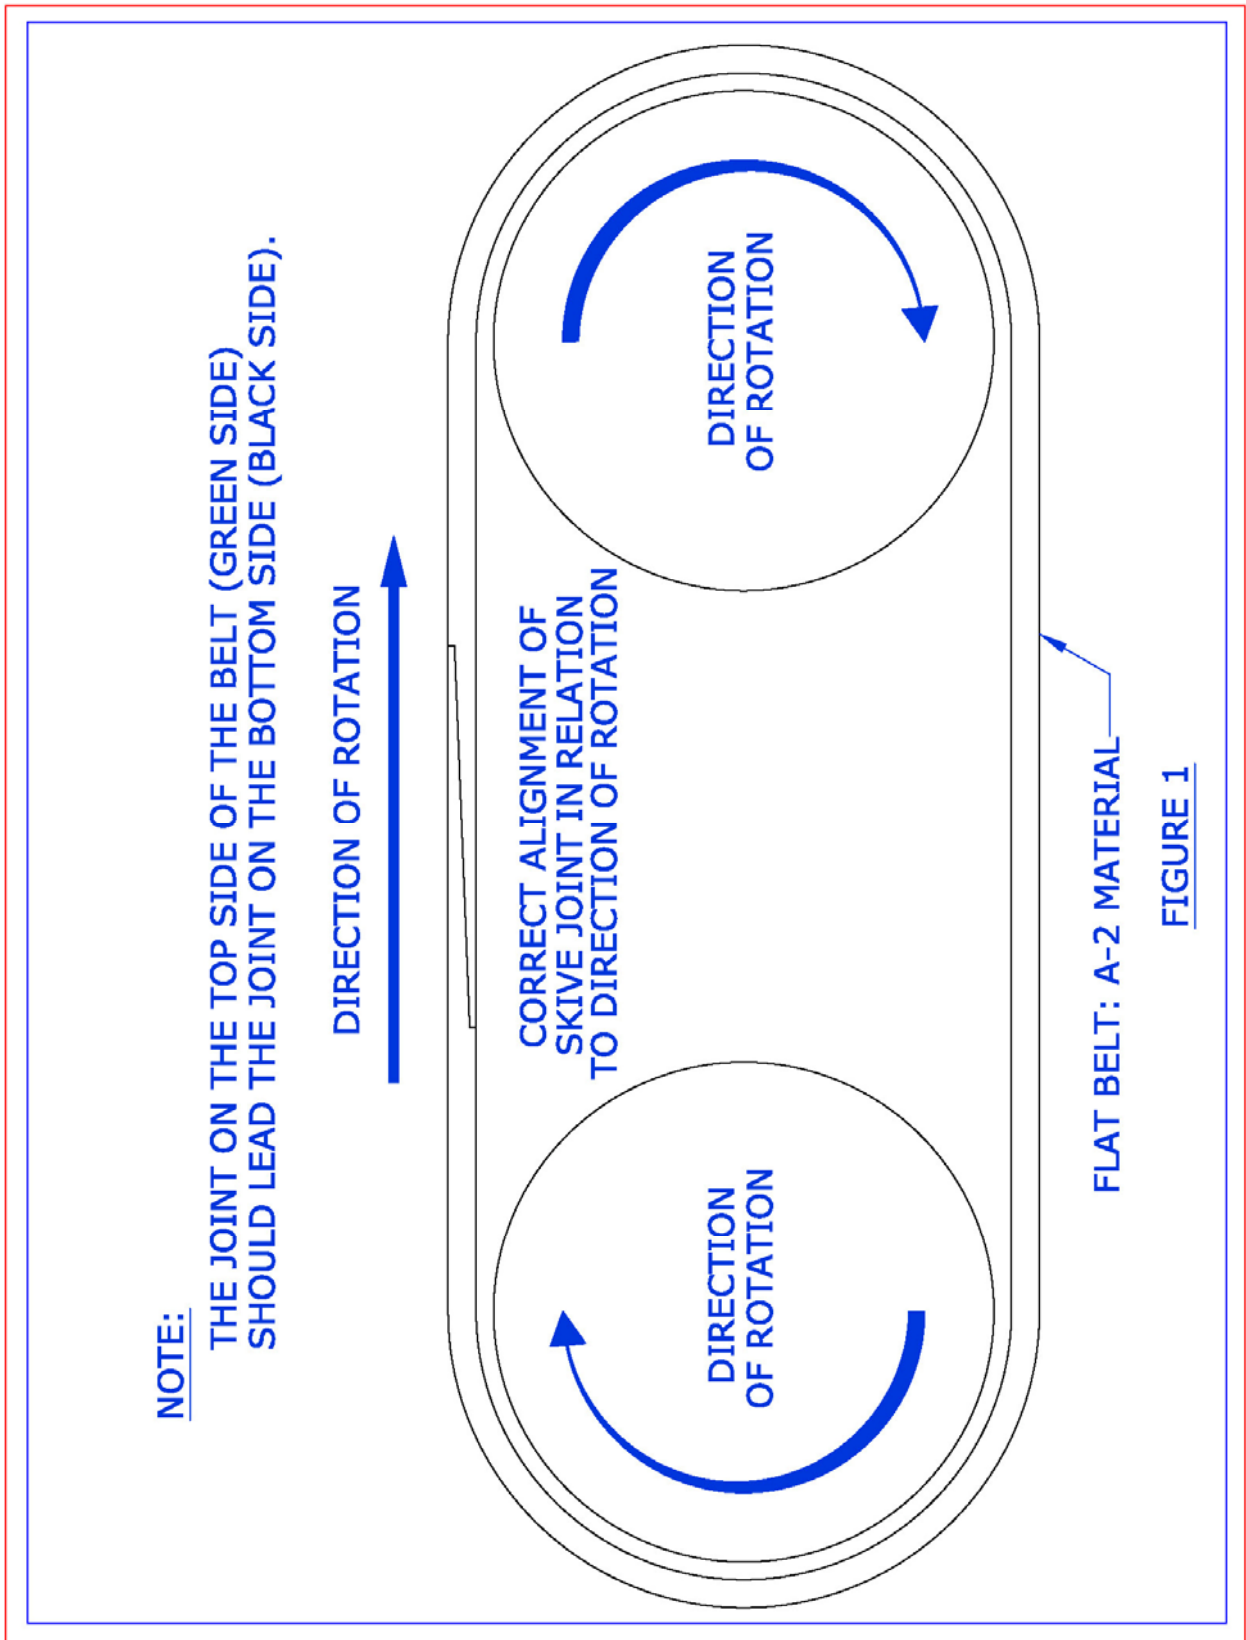

FIGURE 1
8.7	Secure 1 belt to the outside of the drive shaft cover for a spare and slip one through the housing and over the drive pulley.  NOTE: THE CURRENT BELT P/N 060018-1 HAS A SPECIFIC DIRECTION OF ROTATION. (See figure 1, page 3)  NOTE: THE CURRENT BELT P/N 060005 HAS NO SPECIFIC DIRECTION OF ROTATION.